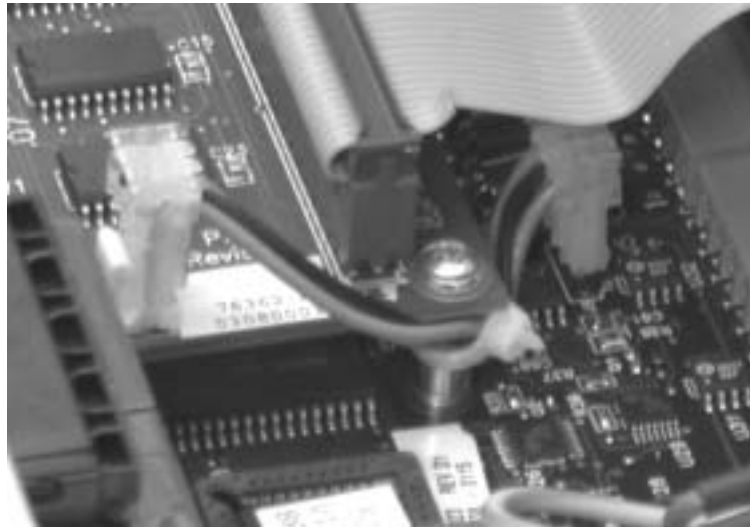

Figure 2-2. Serial Cable Tie
7. Plug serial cable to J3 on BCD card. Plug other end of serial cable to J8 on 520 CPU board. Use the nylon tie in the parts kit to secure the serial cable to the mounting pem (see Figure 2-2 below).